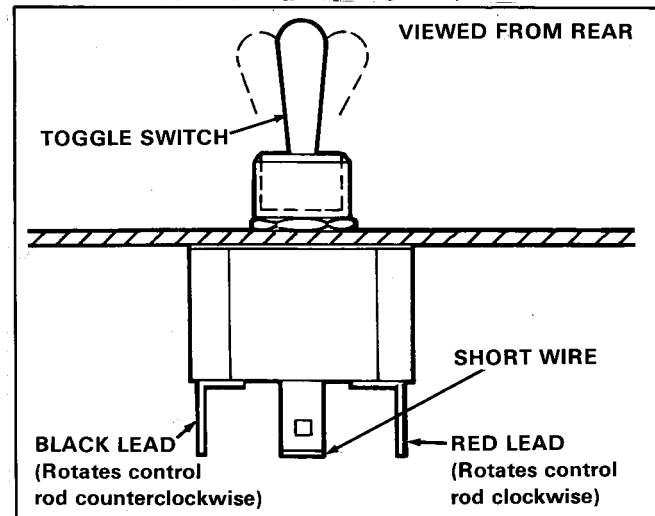
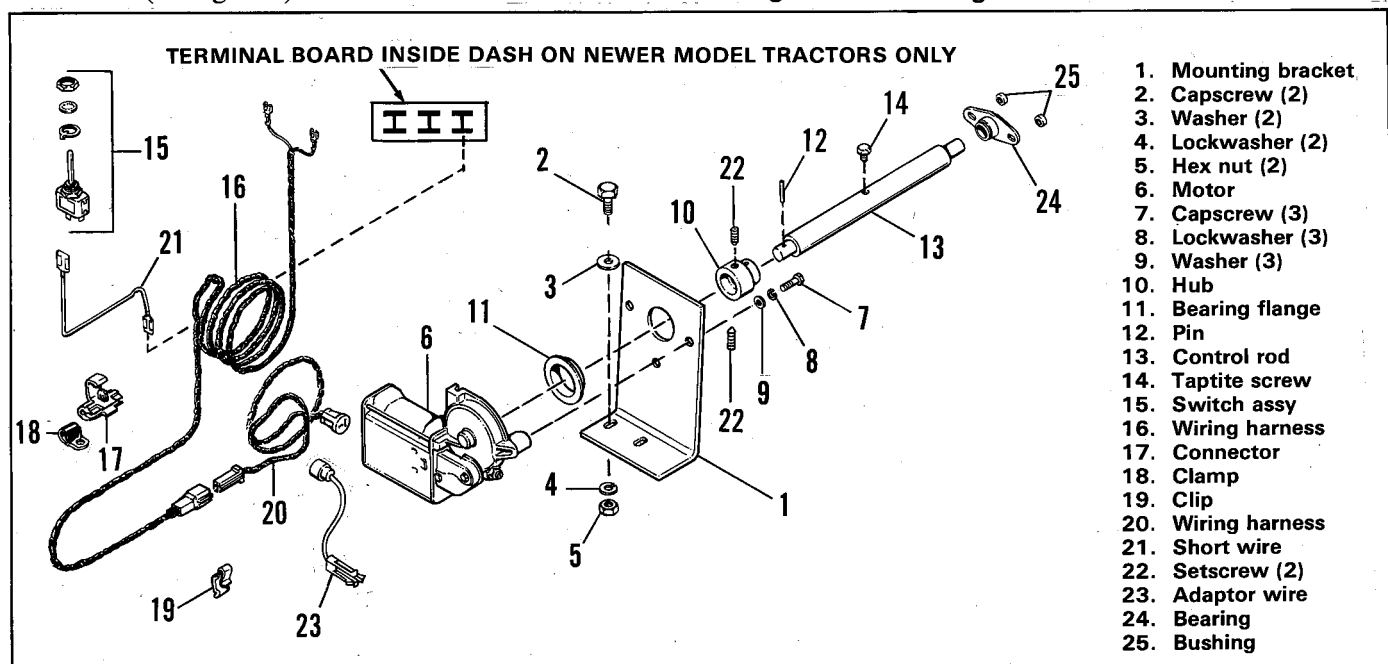
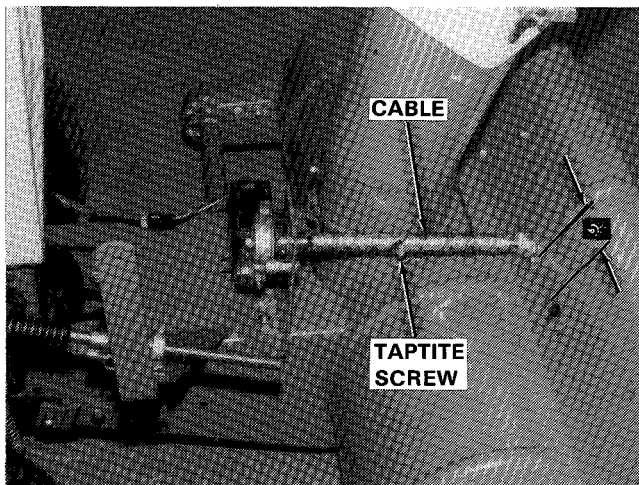
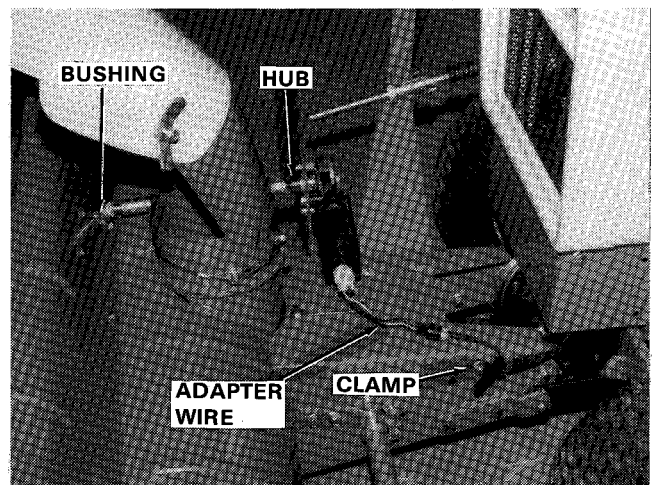

Figure 1. Installing Switch
Figure 2. Wiring and Spout Rotator Assemblies
Figure 3. Reposition Rod Bushing
Figure 4. Installing Cable and Wires
3. Install spout rotator toggle switch (see figure 1) in the top hole (farthest from seat) of the dash. Position switch so toggle lever moves left and right when actuated. On some older model tractors it is necessary to drill a 1/2 inch diameter hole for the switch.
4. The main wiring harness (item 16, figure 2) is installed along the left-hand side of the tractor frame, and up into the dash area. Connect the two clip ends of the wiring harness to the outside terminals of the toggle switch. Install the red lead on the right-hand terminal (viewed from rear) and the black lead on the left terminal (see figure 1).
5. For older model tractors without terminal board (see figure 2). First examine the small connector (item 17, figure 2). Note the two passages in connector, one blocked off and the other going all the way through. Cut off the clip from one end of the short wire (item 21) and insert that end into the connector so it butts up against the blocked passages. Then place the wire that runs from the tractor ignition switch to the generator warning light into the open passage of the connector. With both wires in the connector, squeeze it shut with a pliers and wrap the connector flap into place. Now install the other end of the short wire on the toggle switch center terminal (see figure 1).
6. For newer model tractors with a terminal board (see figure 2). Install one end of the short wire (item 21) on toggle switch center terminal (see figure 1). Install other end of short wire on any open terminal on terminal board (see figure 2). The connect (item 17) is not used.
7. Reinstall dash and steering wheel. Reconnect negative battery cable. Turn ignition key to ON position to ensure it is functioning properly and no wires were accidentally disconnected. Remove key after checking. Install the cable clip (item 19, figure 2) on frame behind left cylinder shroud to hold wiring harness along the left-hand tractor frame.
10. Install the new bearing (item 24, figure 2) in holes shown in figure 3. The two bushings (item 25, figure 2) go between bearing and housing. On older model units, these holes have to be drilled in the housing (see figure 3 to locate holes for drilling).
DRILLING NEW HOLES (Figure 3)
11. Assemble the motor (6), hub (10), bearing flange (11), bracket (1), and control rod (13) as shown in figure 2.
12. Insert front of control rod fully into bushing on housing (see figure 4). Then move the motor bracket until the front of the control rod is parallel, both horizontally and vertically, with the hub (22) at the other end. This is very important; in some cases it may be necessary to bend the bracket.
14. Install the original spout control cable on the new control rod (13) with the tapite screw (14) and connect it to the spout. See figure 3.
15. Install the locking end of the adaptor wire (item 23, figure 2) to the motor, and the other end to the shorter wiring harness (item 20). Loop wires as shown in figure 4 and secure with electrical tape; this helps to keep tension off the connection.
16. Secure the harness to the housing with the clamp (item 18). See figure 4.
17. When installing the snowthrower, plug the snowthrower wiring harness to the tractor wiring harness to operate the electric spout rotator. See figure 4.